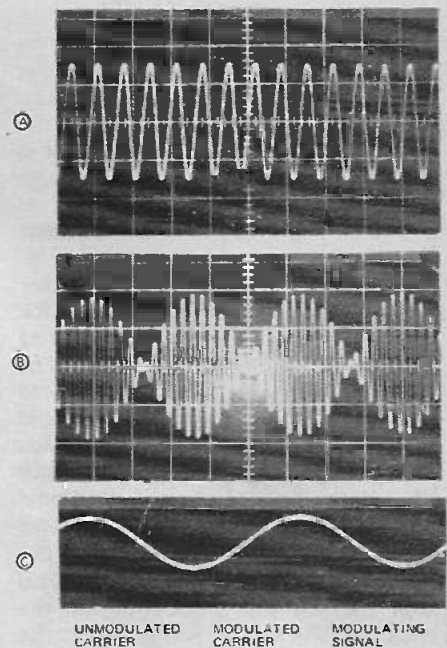

Fig. 8. In amplitude modulation, the amplitude of the a.c. carrier signal is varied, the frequency remaining the same.
For example, referring to our table, the figure 8 could be sent on four lines by putting a 'one' on line 4 and 'zeroes' on lines 1, 2 and 3. Thus in this case the transmission rate would be four times faster again. However the use of parallel transmission is impractical (due to the number of lines required) except over short distances, eg, within a computer.
**Amplitude modulation**... this is the name given to the process in which the instantaneous amplitude of a constant frequency wavetrain is varied usually in order to convey information. This is shown in Fig. 8.